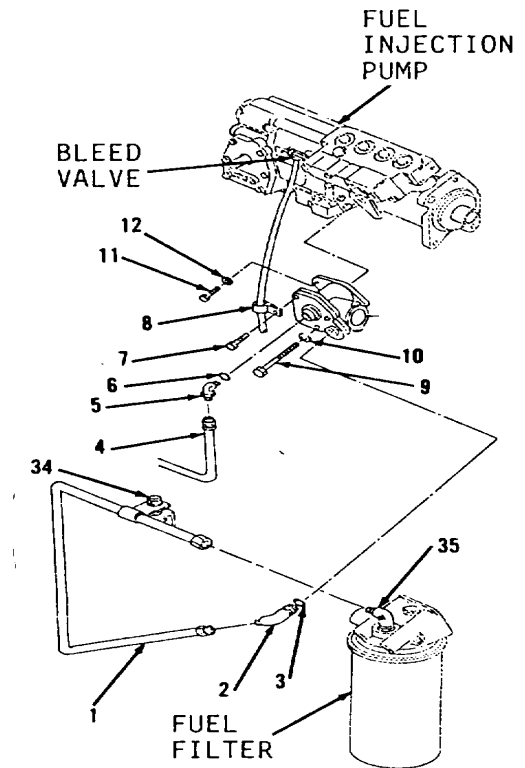

Figure 3-142.
20. Install washer (12), bolt (11) and two bolts (7, Figure 3-142). Tighten evenly.
21. Install washer (10) and bolt (9). Tighten evenly.
22. Remove one of two bolts (7).
23. Install clip (8) and one of two bolts (7) securing air bleed tube in fuel injection pump.
24. Install new preformed packing (6) and elbow (5).
25. Connect hose assembly (4).
26. Install new preformed packing (3) and elbow (2).
27. Connect tube assembly (1) to elbows (35 and 2).
28. Tighten bolt (34).